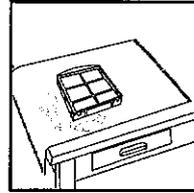

Fig. 33
- Lay flat on a towel to dry thoroughly (overnight drying is recommended or a minimum of 8 hours) (Fig. 33).